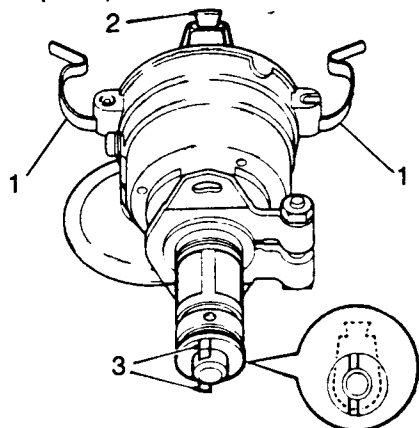

Fig D5.1
- (2) Refer to Fig D5.1. Spring back the clips (1) and remove the moulded cover (the dust cap).
- (3) Note the relative position of the offset drive dog (3) to the rotor arm lobe (2). The centre line of the drive dog is parallel with and offset to the centre line of the rotor arm.